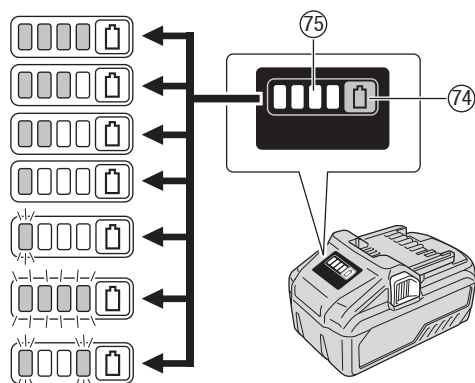

Fig. 32
### ABOUT REMAINING BATTERY INDICATOR (Fig. 32)
- You can check the battery's remaining capacity by pressing the remaining battery indicator switch (74) to light the indicator lamp. (Fig. 32, Table 1)
- The indicator will shut off approximately 3 seconds after the remaining battery indicator switch (74) is pressed.